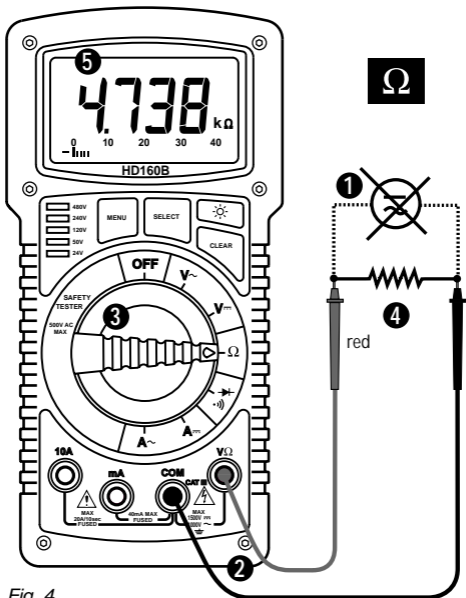

Fig. 4
RESISTANCE MEASUREMENT (See Fig. 4)
❶ Turn off any power to the resistance to be measured and discharge any capacitors. Any voltage present during a resistance measurement will cause inaccurate readings. ❷ Connect test leads as shown in figure 4. ❸ Set Function/Range Switch to Ω position. ❹ Connect test leads to circuit being measured. ❺ Read resistance value on Digital Display. Open circuits will be displayed as "I.O.L".